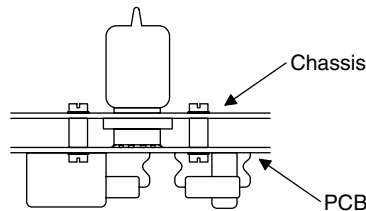

Figure 3.41
- A power amplifier's driver stage usually has its valves showing on the top of the chassis, but PCB capacitors can sometimes be quite tall, forcing the PCB to be mounted so far below the chassis that the valve hardly peeps through the chassis, restricting cooling. In this instance, it is better to mount the valve sockets on the foil side (beware that from the point of view of the tracks, this reverses the pin order). Unfortunately, mounting the socket on the foil side is mechanically weak because removal of a valve tends to tear tracks off the PCB. The solution is to choose a flanged PCB socket and use PCB mounting spacers of just the right length to press the flange against the chassis plate (see Figure 3.41).